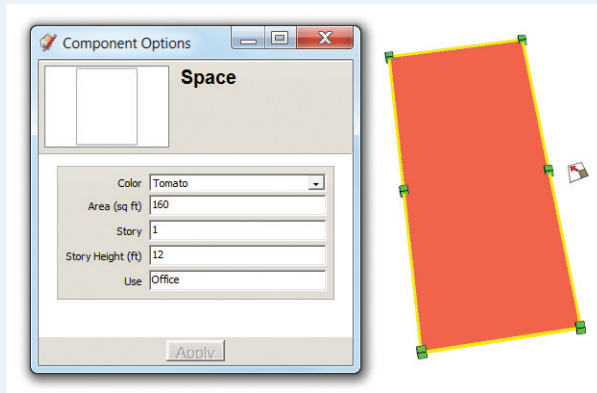

Figure 3.23: Options for the Space Dynamic Component
7. Open the Component Options dialog. It should show all of the accessible attributes such as color, use, story height, story number, and square footage (see **Figure 3.23**).